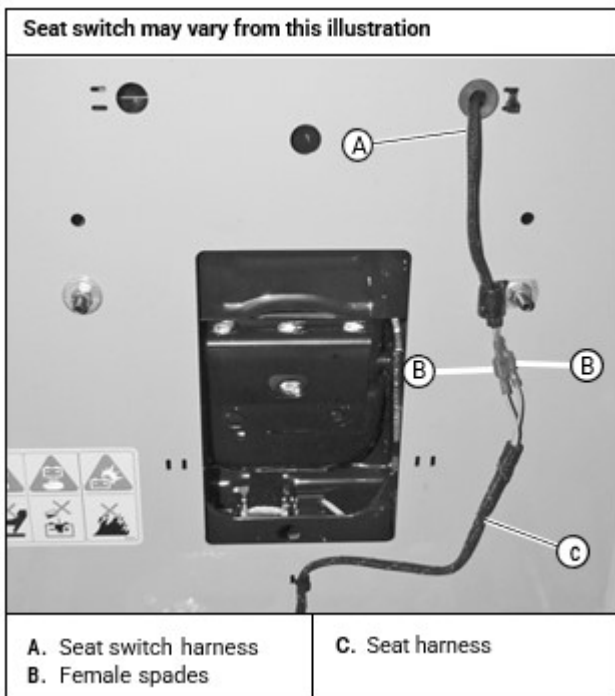

Figure 1
3. Raise the seat platform and disconnect the harness from the seat switch harness. Bypass the seat switch by connecting the two (2) harness female spades together. [Figure 1]
12. **IMPORTANT:** With the engine off, disconnect the two female spade connectors from each other (from step #3) and reconnect them to the seat switch. This must be completed so that the safety circuit is functioning properly. [Figure 1]